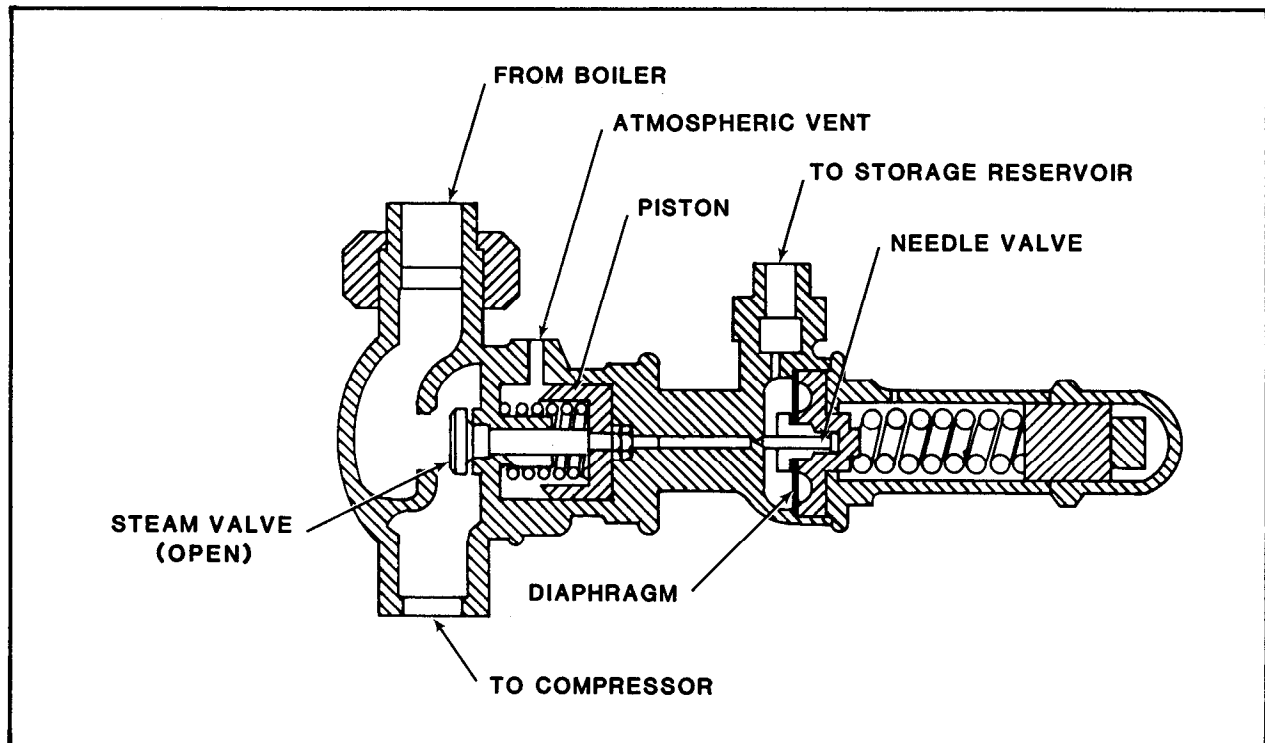

FIGURE 5-1. Automatic Start-Stop Governor
**1.1.3 Automatic Start-Stop Governors.** Automatic start-stop governors (figure 5-1) are also used on steam-driven compressors. This governor has a spring-loaded diaphragm, the underside of which is always open to receiver pressure. When receiver pressure becomes greater than the spring pressure above the diaphragm, the diaphragm is raised, unseating the needle valve. Air then flows to the chamber above the piston attached to the steam valve. Air pressure on this piston forces the steam valve to its seat, cutting off the flow of steam to the compressor. With a decrease in steam pressure, the valve operates in reverse to readmit steam to the cylinder.